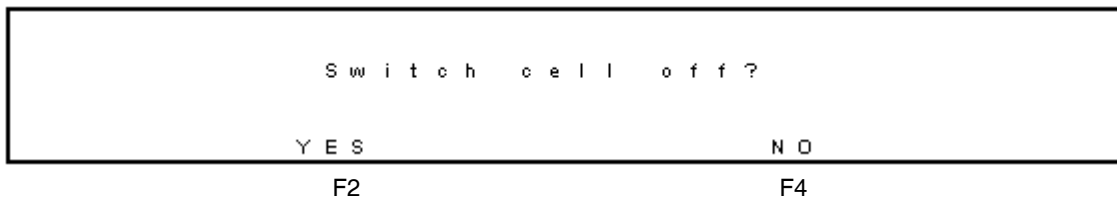

Figure 3-63 Switch Cell Off Screen
2. Select **F3 CELL=ON**. The Switch Cell Off screen appears (Figure 3-63).